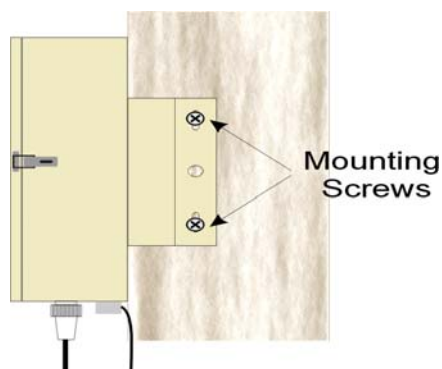

Figure 2.1 - Wooden Pole Mounting
4. Attach the controller to the pole (figures 2.1 and 2.2”)
To mount the controller to a wooden pole, use suitable wood screws and the slots provided in the mounting bracket. Insert a minimum of 4 screws (one per slot) to ensure solid mounting. Refer to *Figure 2-1* for screw slot locations. It is advisable to use washers on each screw if the screw heads are smaller than the slot dimensions.